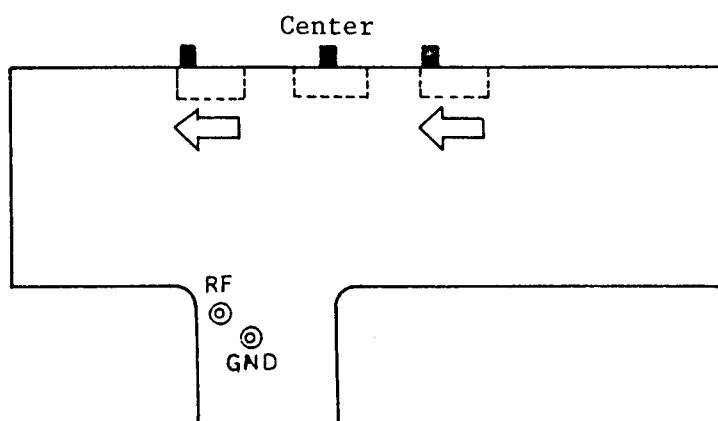

Fig. 3-13
- ① Position the switches of the PCB connection cord as illustrated in Fig. 3-13.